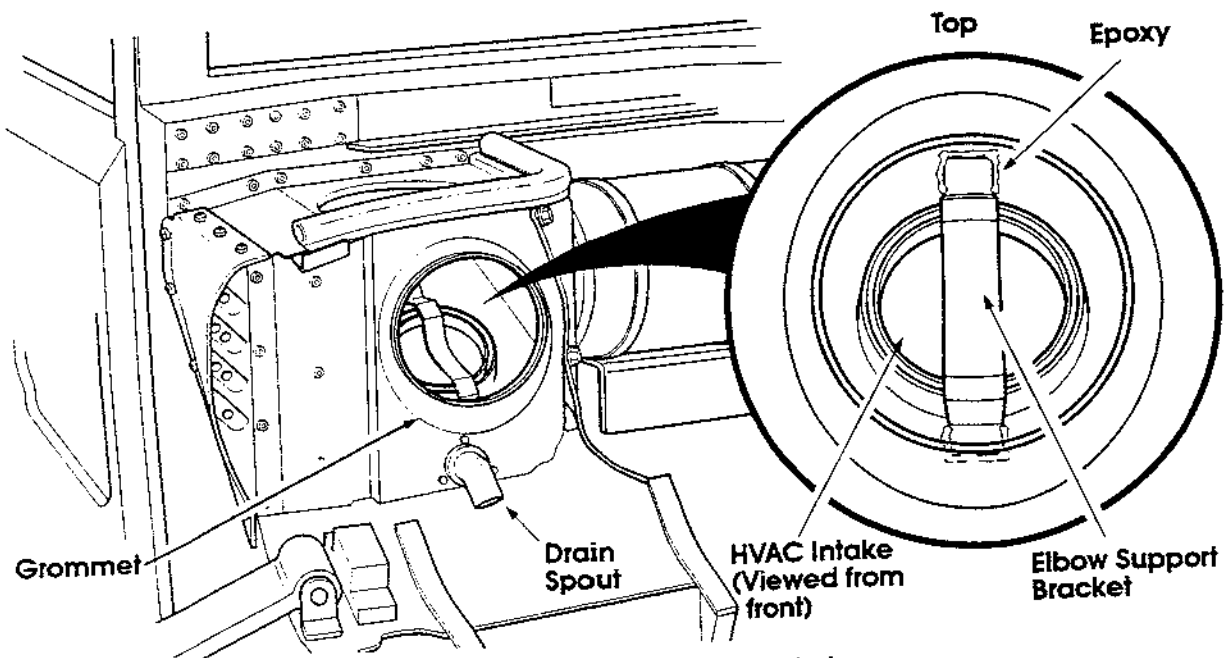

Figure 1 Elbow Support Bracket
5. Position bracket (Item 5) over HVAC fresh air intake hole in air box so that it is vertical and centered over hole. The larger portion of the bracket goes to the bottom, or facing the front of the vehicle. Do not place bracket in a location that will prevent installation of air box drain spout (See Figure 1).